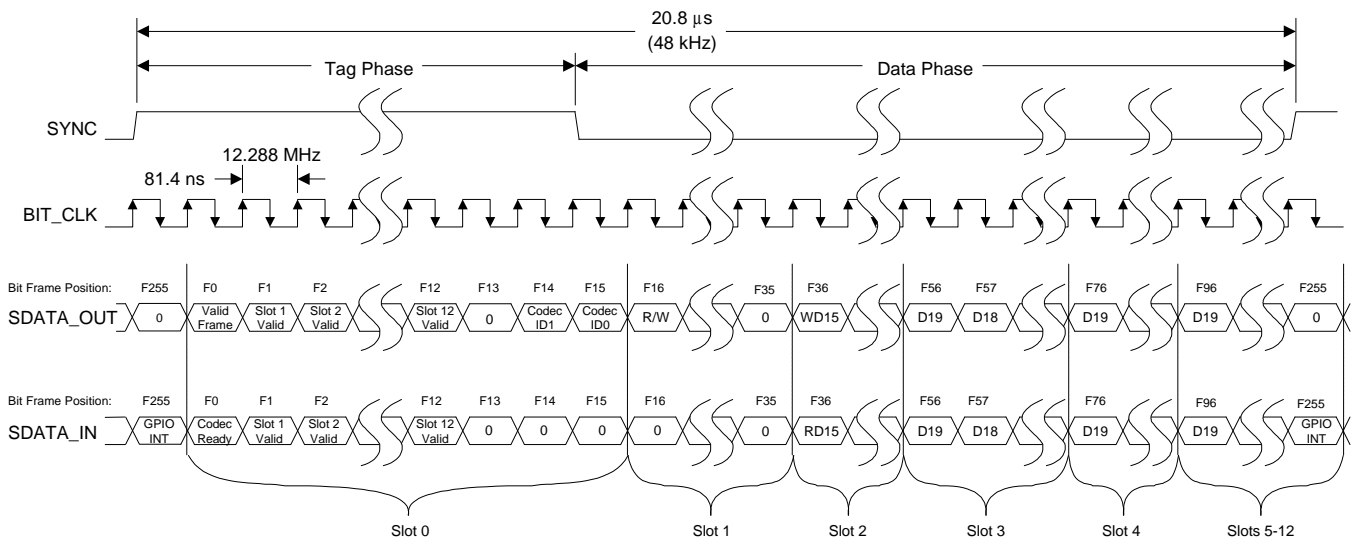

Figure 9. AC-link Input and Output Framing
Figure 9 shows the position of each bit location within the frame. The first bit position in a new serial data frame is F0 and the last bit position in the serial data frame is F255. When SYNC goes active (high) and is sampled active by the CS4299-BQ (on the falling edge of BIT\_CLK), both devices are synchronized to a new serial data frame. The data on the SDATA\_OUT pin at this clock edge is the final bit of the previous frame's serial data. On the next rising edge of BIT\_CLK, the first bit of Slot 0 is driven by the controller on the SDATA\_OUT pin. On the next falling edge of BIT\_CLK, the CS4299-BQ latches this data in, as the first bit of the frame.
In the serial data output frame, data is passed on the SDATA\_OUT pin to the CS4299-BQ from the AC '97 controller. Figure 9 illustrates the serial port timing.
**R/W** Read/Write. When this bit is 'set', a read of the AC '97 register specified by the register index bits will occur in the AC '97 2.1 audio codec. When the bit is 'cleared', a write will occur. For any read or write access to occur, the Frame Valid bit (F0) must be 'set' and the Codec ID[1:0] bits (F[14:15]) must match the Codec ID of the AC '97 2.1 audio codec being accessed. Additionally, for a primary codec, the Slot 1 Valid bit (F1) must be 'set' for a read access and both the Slot 1 Valid bit (F1) and the Slot 2 Valid bit (F2) must be 'set' for a write access. For a secondary codec, both the Slot 1 Valid bit (F1) and the Slot 2 Valid bit (F2) must be 'cleared' for read and write accesses. See Figure 9 for bit frame positions.
In the serial data input frame, data is passed on the SDATA\_IN pin from the CS4299-BQ to the AC '97 controller. The data format for the input frame is very similar to the output frame. Figure 9 on page 13 illustrates the serial port timing.